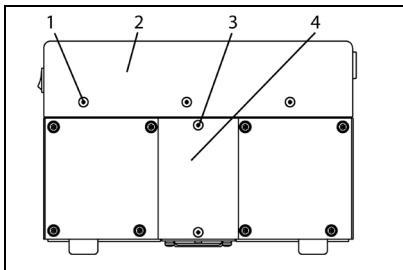

Fig. 15: Covering shroud and covers (N 940.5 APE-W)
1. Loosen the covering shroud's (2, Fig. 15) three screws (1) on each of the pump's front and rear sides.
3. At the front and rear sides of the pump, loosen the two screws (3) for each of the two covers (4) and remove the covers.
1. Connect the mains-switch cable's plug and re-install the covering shroud (**2**, Fig. 15).
2. Re-install the two cover plates (**4**, Fig. 15).